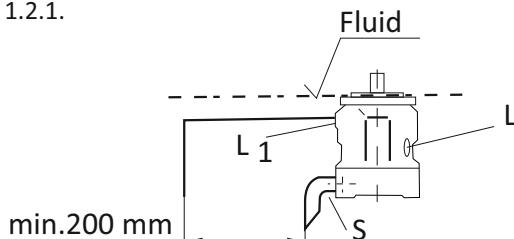

Fig.1
- If the minimum fluid level is equal to or above the pump mounting face close port "L" plugged, leave ports "L" and 1 "S" open; L piped and recommendation S piped (see Fig.1). 1